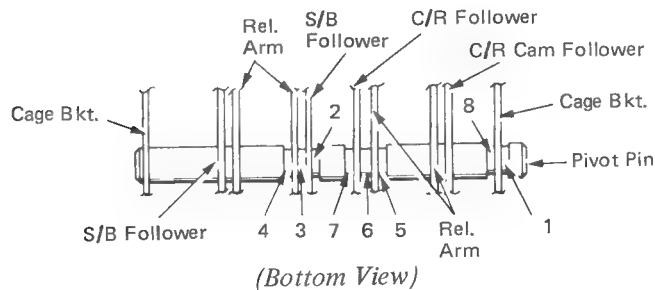

Figure 9
19. Install the pivot pin through the spacebar cam follower and clutch release arm and install the "C" clips in the following order (Figure 9). Number 8 is a bias "C" clip.